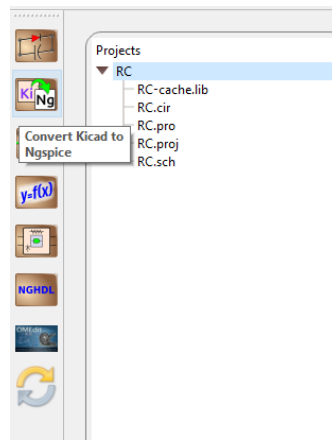

Figure 11.9: Convert KiCad to Ngspice Icon
- Convert KiCad to Ngspice: To convert KiCad netlist of RC circuit to NgSpice compatible netlist click on KiCad to Ngspice icon as shown in Fig. 11.9.